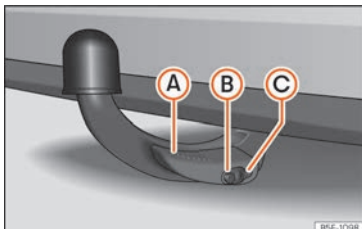

Fig. 298 Detachable ball properly attached.
- Lever (A) »» Fig. 298 is fully raised.
- The release bolt (B) »» Fig. 298 is sticking fully out (the red and green part is visible).
- Cover (C) »» Fig. 298 is placed over the lock.